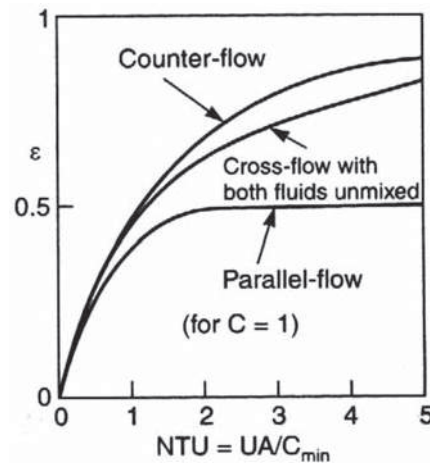
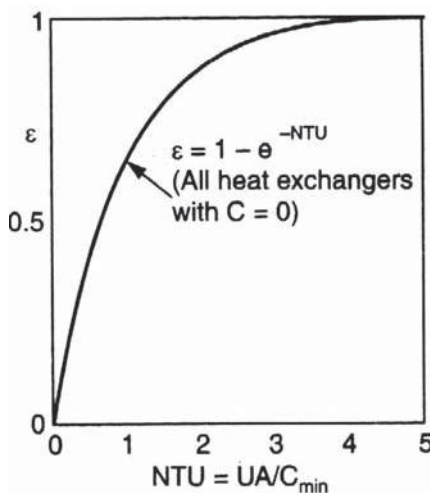

Fig. 21: Comparison of effectiveness for different flow arrangements for $C = 1$.
Fig. 22: effectiveness for condensers and evaporators for $C = 0$.
- For C = 0 (condenser & evaporator), all heat exchangers will give the same effectiveness and is given by $\epsilon = \epsilon_{max} = 1 - \exp(-NTU)$. The situations are shown in Fig. 21 and Fig. 22 for C = 1 and C = 0 respectively.